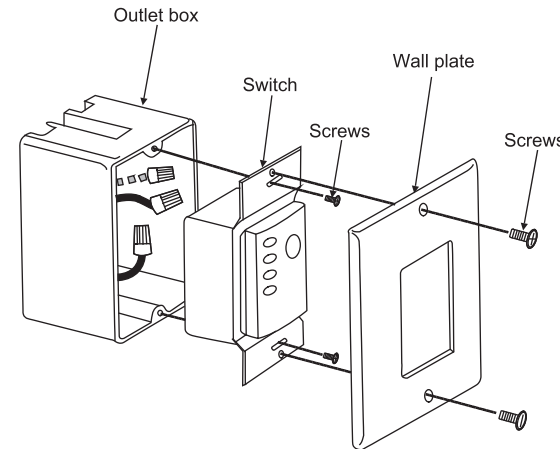

Fig. 24
**Step 2.** Install the wall plate on the existing wall outlet box using the screws provided. (**Fig. 24**)